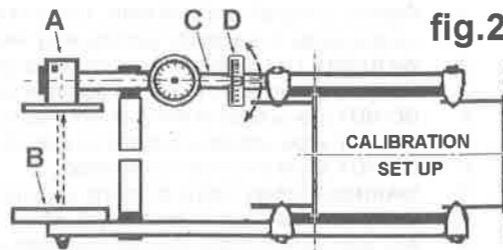
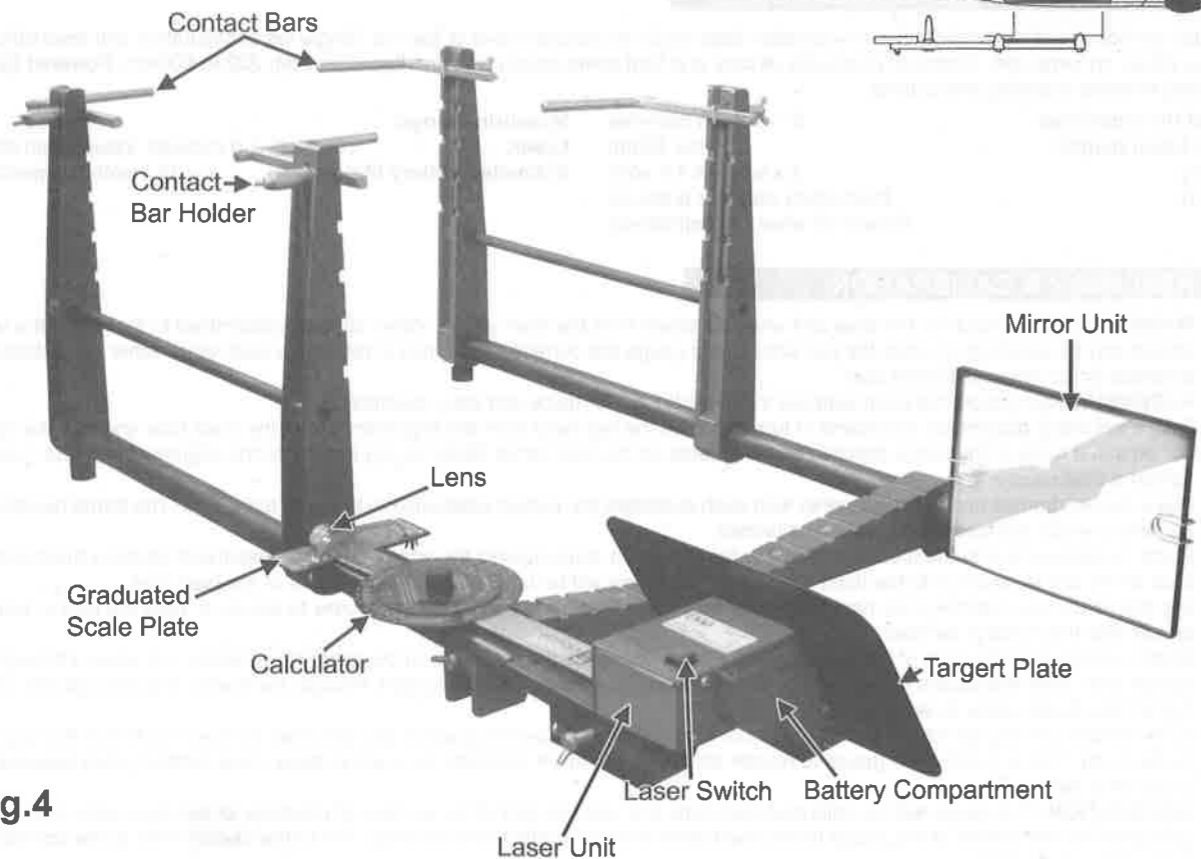

fig.2
fig.4
- 4.4 When the contact bar arrangements on both units match, proceed to calibrate the gauge. (See calibration set - up in figure 2).
- 4.5 Stand both units close together so that the tips of the contact bars are touching. The mirror unit (B) should be vertical. (Check the built in spirit level and adjust accordingly). If the laser beam is not visible on the target plate loosen the thumb screw and tilt the laser unit until the beam is visible on the target plate. (See fig.4).
- 4.6 Move the pointer arm (see fig.2-C) until the laser beam is visible on the vertical centre line in between the two bold arrows.
- 4.7 The lens attached to the end of the pointer arm should now be positioned over the zero mark on the graduated scale plate. (see fig.2-D) If it is not, slacken the two wing nuts (fig.4) and adjust the scale plate zero mark to coincide with the indicator line on the lens. Retighten the wing nuts. The gauge is now ready for use in this particular situation. (Should you proceed to use the gauge on a different vehicle requiring you to alter the contact bar settings you will need to recalibrate the gauge as just described).
- 4.10 The calculator (see fig.4) allows conversion of the angle obtained to a linear measurement in millimetres or fractions of an inch (Linear toe-in or toe-out). Set the large arrow on the top dial to the specified width on the bottom dial. The specified width may either be the nominal wheel diameter or a dimension equivalent to a diameter on the tyre sidewall e.g. mid - sidewall (or in accordance with the measuring position figures in the appropriate workshop manual or handbook). Read the linear toe reading from the bottom dial, opposite the angular toe reading from the top dial.